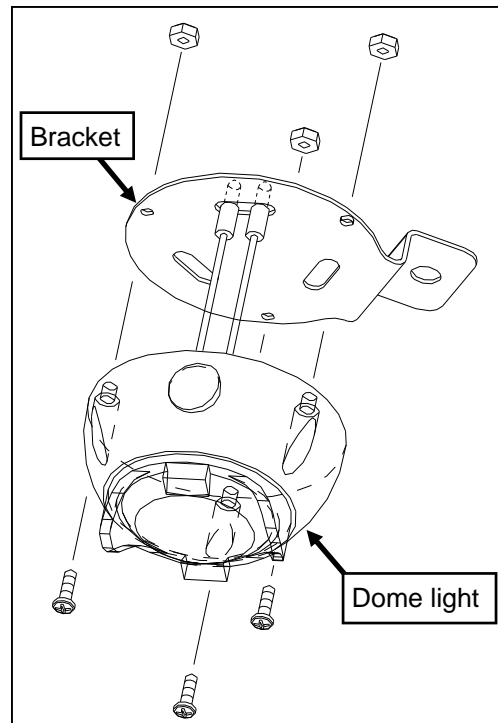

FIGURE 1.1
1. Attach dome light to bracket using three #6-32 x 1/2" screws and nuts provided (See Figure 1.1).